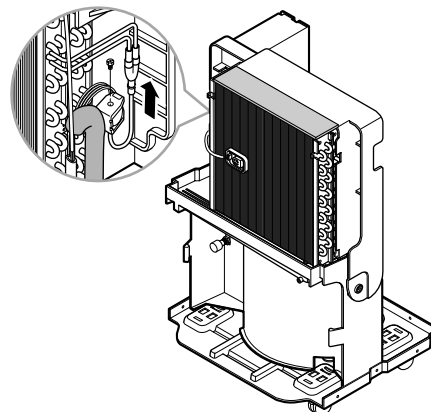

Figure 18
2. Remove the screw that fastens the COIL ASSEMBLY, SOLENOID. (See Figure 18)